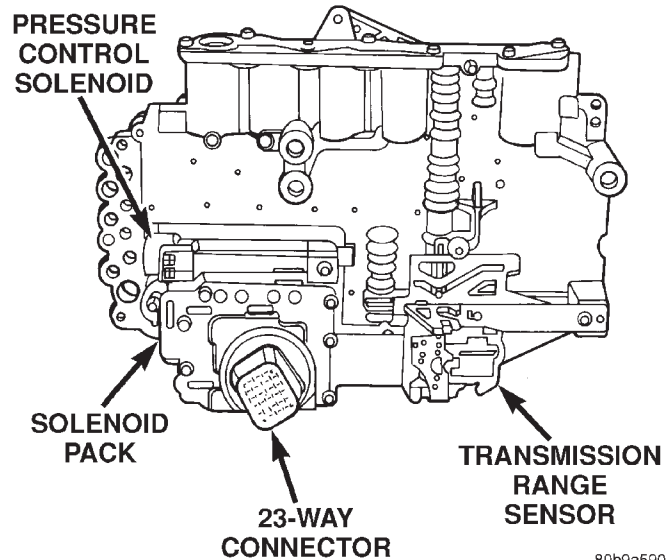

Fig. 37 Solenoid and Pressure Switch Assembly
(1) Remove the screws holding the solenoid and pressure switch assembly to the valve body transfer plate (Fig. 37). Do not remove the screws on the top of the solenoid and pressure switch assembly.
(2) Separate the solenoid and pressure switch assembly from the valve body transfer plate.
(3) Remove the screw holding the detent spring onto the valve body.
(4) Remove the detent spring from the valve body.
(5) Remove the TRS selector plate from the valve body and the manual valve.
(6) Remove the clutch passage seals from the valve body, if necessary.